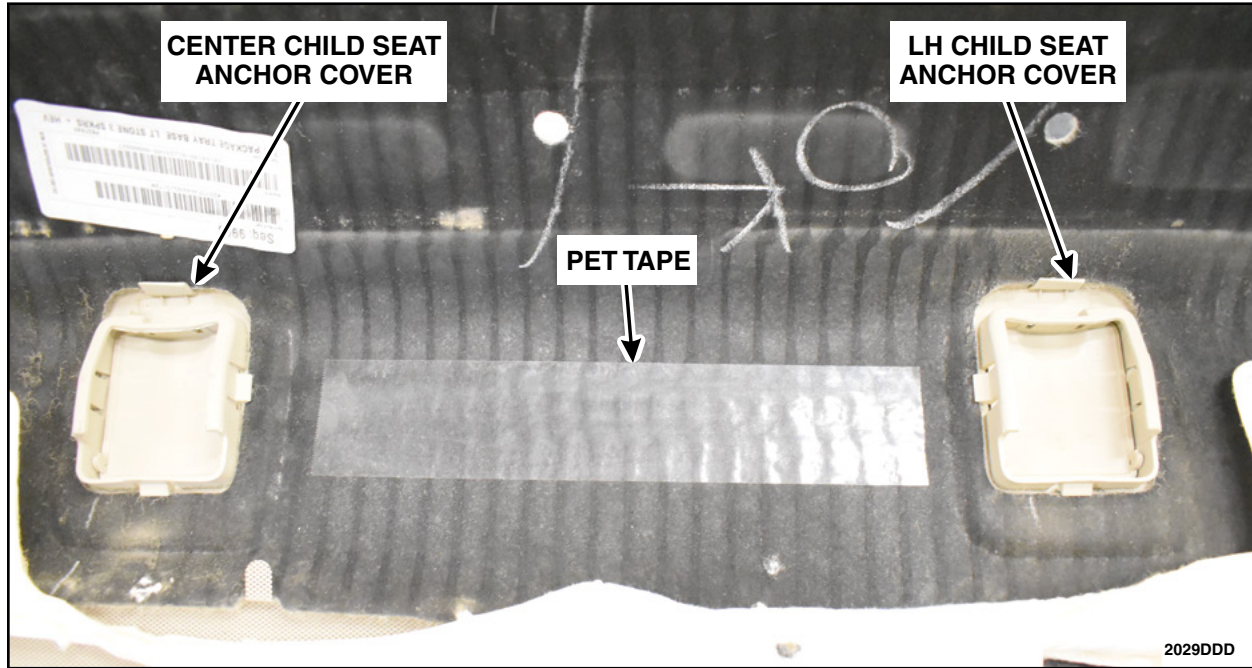

FIGURE 9
10. Remove the backing on the PET tape strip and apply between the center and left hand child seat anchor covers. See Figure 9.